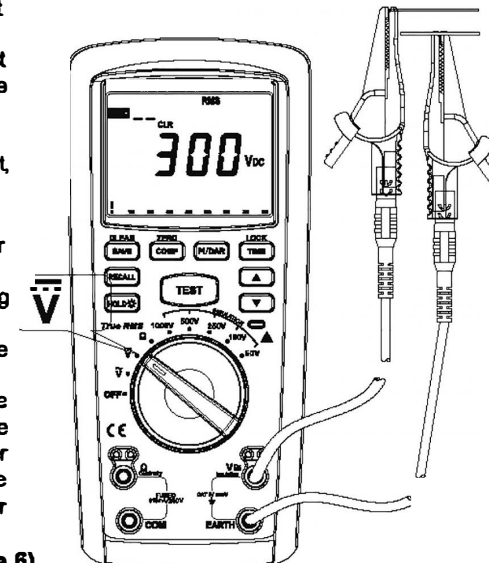

Figure 5
2. DC voltage measurement (See Figure 5)
- ① Insert red test pen in "V~" jack (red hole) and black test pen in "EARTH" jack (black hole).
- ② Push the rotating switch to the gear "V~" and connect test pen in parallel with the power source or to both ends of the load to be measured.
- ③ Directly read the measured voltage value from display.
- ④ To save the measured voltage value during measurement, just push the button "SAVE".